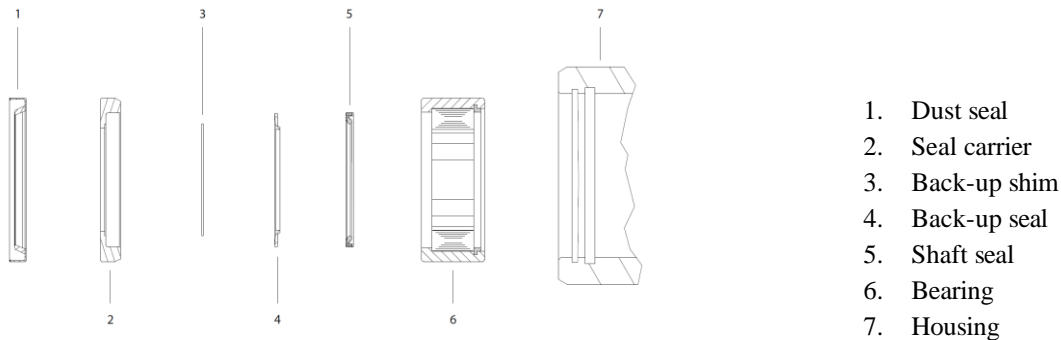

Figure 3: RE 530 W Mount Shaft Stack-up
13. Install high pressure seal (2) into groove in pilot of housing (15). Place shaft on a clean, flat surface with output end facing up. Place thrust washer (13), thrust bearing (14) and second thrust washer (13) over shaft (28). Place bearing spacer (12) over shaft (26). Place seal carrier (10) on a clean flat surface with the flat side facing down. Install metal backup shim (3) into seal carrier (10). Making sure that lips on both seals face up (see figure 3), install backup seal (4) into seal carrier (10) followed by shaft seal (5). Using an arbor press, carefully press down on shaft seal (5) to press seal assembly (3-5) into seal carrier (10). With shaft seal (5) facing down, carefully lower seal carrier assembly down onto shaft making sure to not cut seal lip on keyway.
14. Place shaft (28) assembly into housing (15). Install retaining snap ring (9) into groove in housing pilot (15). (Note: it may be necessary to lightly tap the retaining snap ring (9) to allow it to seat properly.) Replace all shaft related components (i.e. keys, wire rings, nuts). Install dust seal (1) over shaft (25) with lip facing up and carefully press the seal down to seat it in the housing (15).